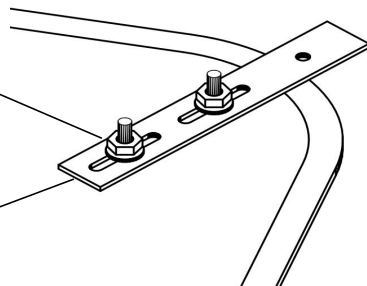

Figure2
③ Place the metal bars onto the bath, along with the washers and nuts as shown below, do not tighten at this stage to allow for adjustment, taking care not to damage the bath surface. See Figure 2